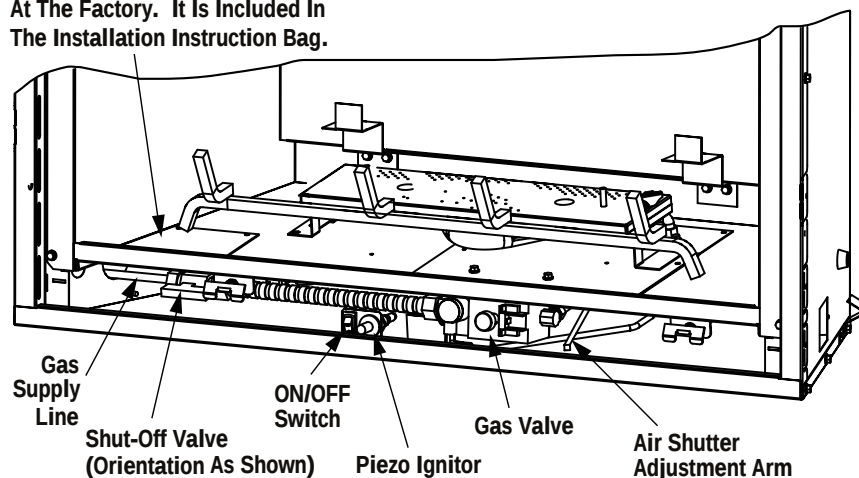
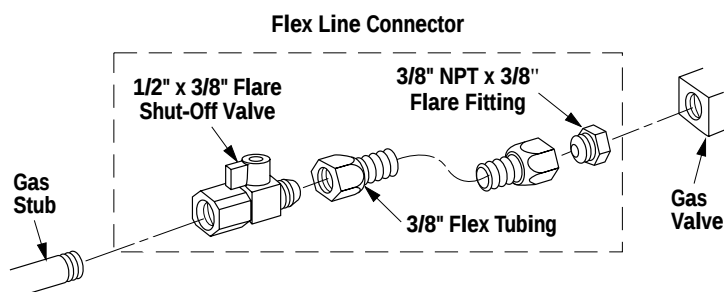

Figure 39
Figure 38 - GAS CONNECTION
All codes require a shut-off valve mounted in the supply line. The orientation of the shut-off valve should face the front, as shown in *Figure 39*. *Figure 38* illustrates the method for connecting the gas supply.
The gas flex line can only be used where local codes permit. See *Figure 38* for flex line description. The flex line is rated for both natural and propane gas. A manual shut off valve is also provided with the flex line.
If required, access the valve by removing the lower control compartment panel (see *Figure 39*) by lifting and pulling the panel forward. The millivolt and electronic control valve has a 3/8" (10 mm) NPT thread inlet port.
Remove the gas line access plate and gasket from the provided plastic bag and install them over the opening, using the provided screws (4) as shown in **Figure 39**.
With gas line installed run initial system check-out before closing up the front of the unit. Follow the pilot lighting instructions provided in the Homeowner's Care and Operation Instructions. For piezo ignitor location see **Figure 39 on page 23** (millivolt appliances only).
Note: Lighting Instructions are also found on the literature tag tied to the gas piping next to the gas valve. To access the tag, open the lower control compartment door (**Figure 39 on page 23**) by pulling the panel forward.
Observe the flame continuously. If it appears weak or sooty as previously described, adjust the air shutter by rotating the adjustment arm up or down (refer to **Figure 39**) until the flame appearance is as desired.